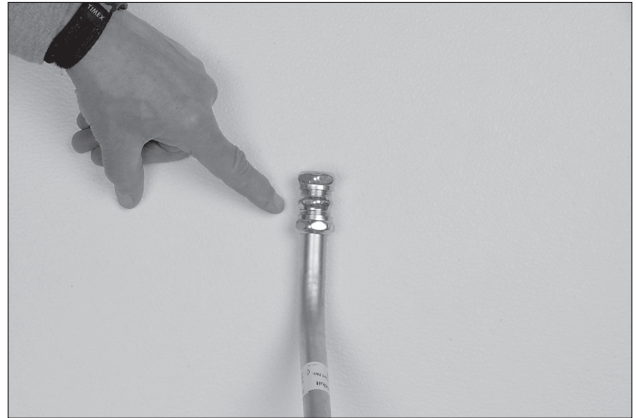

FIGURE 5-88
3. Install the compression union to the opposite end of the conduit offset. Tighten securely. See Figure 5-88.